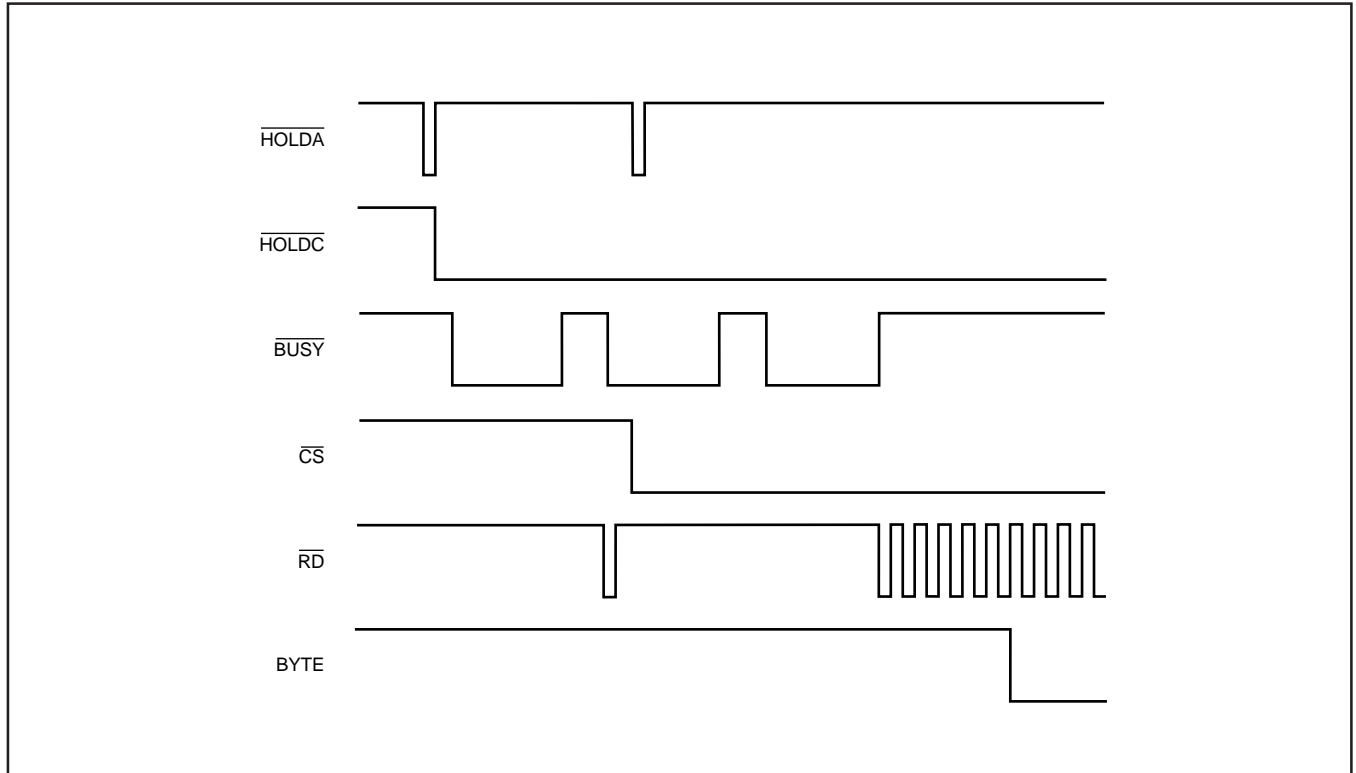

FIGURE 11. Reading Data in Cycling Mode.
**BYTE**—If there is only an 8-bit bus available on a board then Byte can be set HIGH (see Figures 11 and 12). In this case, the lower eight bits can be read at the output pins DB7 to DB0 at the first  $\overline{\text{RD}}$  signal and the higher bits after the second  $\overline{\text{RD}}$  signal.
With (A2 A1 A0) = 110 the interface is running in a cycle mode (see Figures 11 and 12). Here, data from channel A0 is read on the first  $\overline{RD}$  signal, then A1 on the second, followed by B0, B1, C0 and finally C1 before reading A0 again. Data from channel A0 is brought to the output first after a reset-signal or after powering the part up.